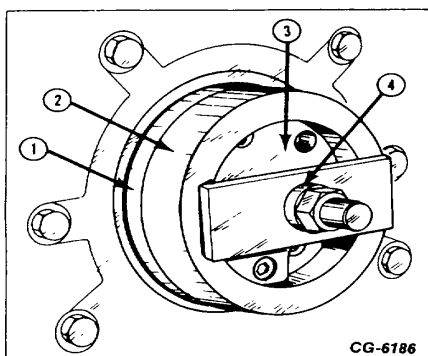

Figure 35. - Oil Seal and Wear Sleeve Installing Tool
- j. Position the wear sleeve and oil seal installing Tool (2, Fig. 35) on the centering plate (3) then tighten thrust washer (4) as shown.